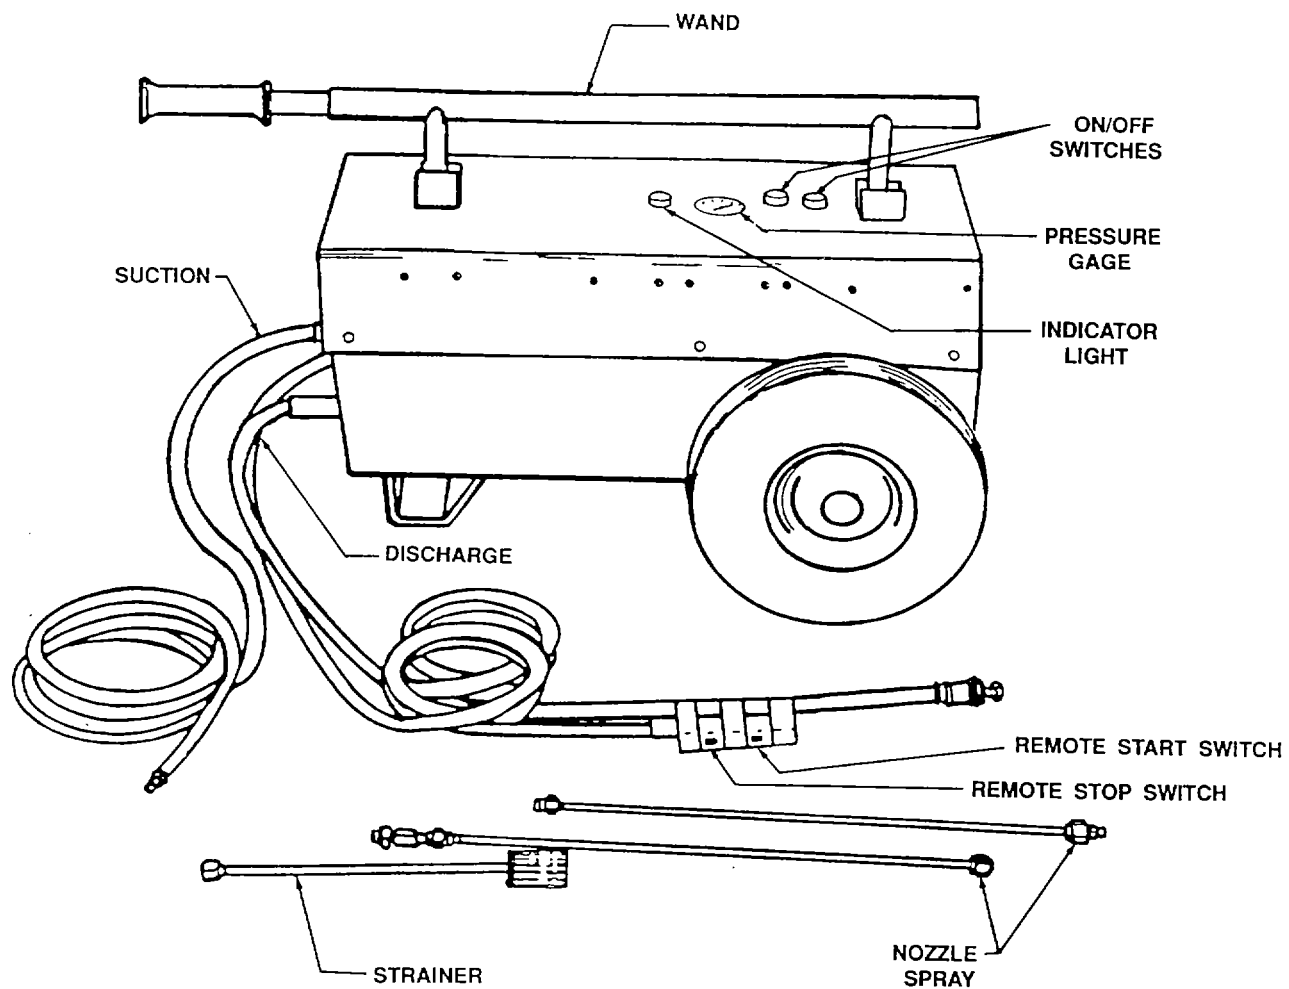

Figure 9-22. Universal Wash Unit
- (6) *Maintenance.* Consult the applicable maintenance manual for preventive and scheduled maintenance requirements.
o. Universal Wash Unit. The universal wash unit shown in figure 9-22, is used for aircraft cleaning. The wash unit has two wheels and a single on which the unit is supported and moved about.